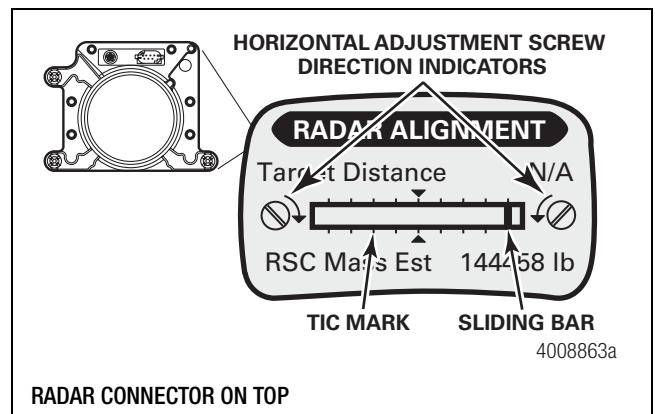
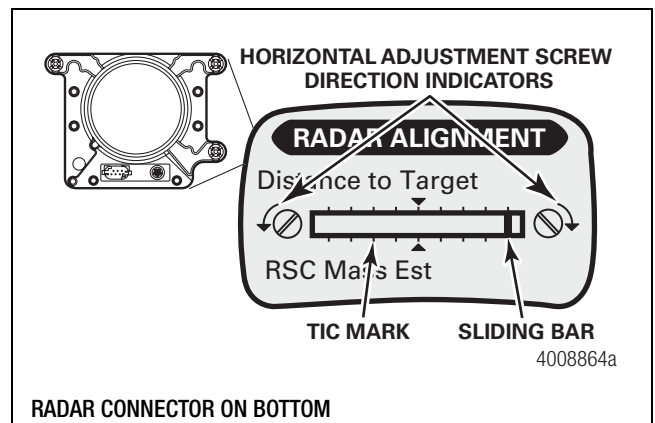

Figure 2.29
Figure 2.30
- For horizontal alignment, the vehicle must be driven and a target vehicle must be tracked. Start the engine and select the OnGuard Driver Display "Radar Alignment" screen by pressing the "MODE" button twice. Figure 2.29 and Figure 2.30.